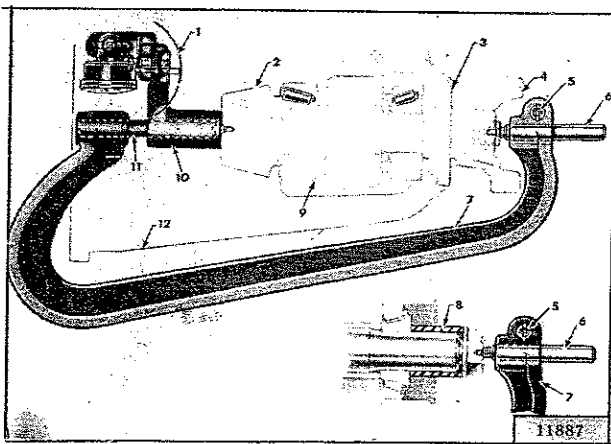

FIG. N-22—PINION ADJUSTING FIXTURE
- h. Install the pinion adjusting fixture on the pinion with the stationary guide pin and the adjustable guide pin seated in pinion shaft lathe centers, as shown in Fig. N-22.